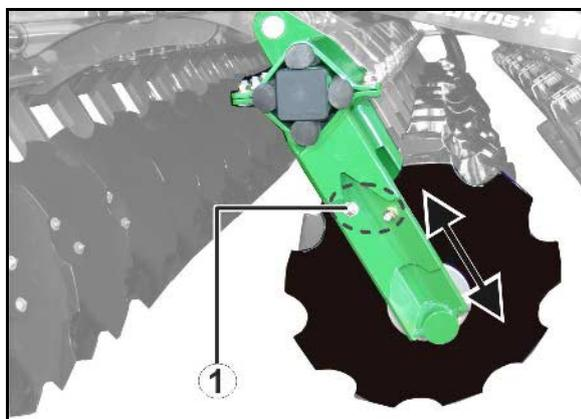

Fig. 48
The offset of the disc rows is adjusted as required by means of an AMAZONE eccentric pin. 6 insertion holes are available for this purpose. (Fig. 48).
3. Release clip pins (Fig. 48/1).
4. Insert eccentric pins (Fig. 48/2) into the desired insertion hole.